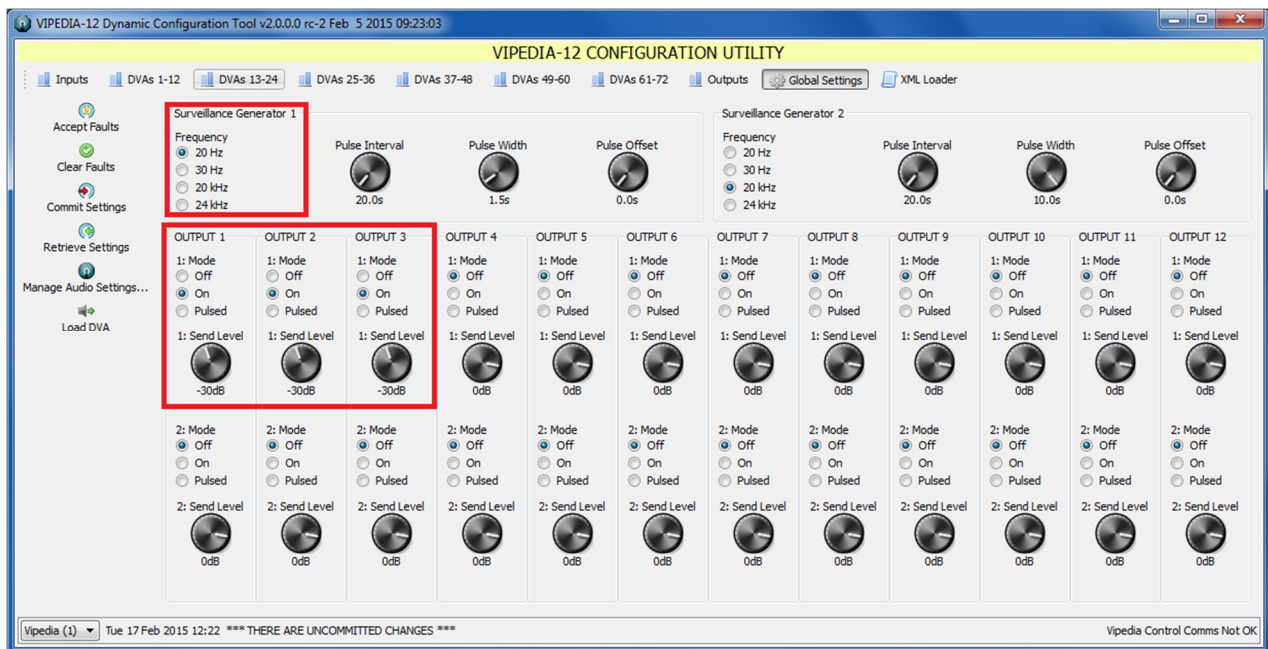

Figure 9 VIPEDIA-12 Dynamic Configuration Tool – 20Hz surveillance tone commissioning
- Figure 9** highlights the relevant sections, with outputs 1 – 3 commissioned as an example.